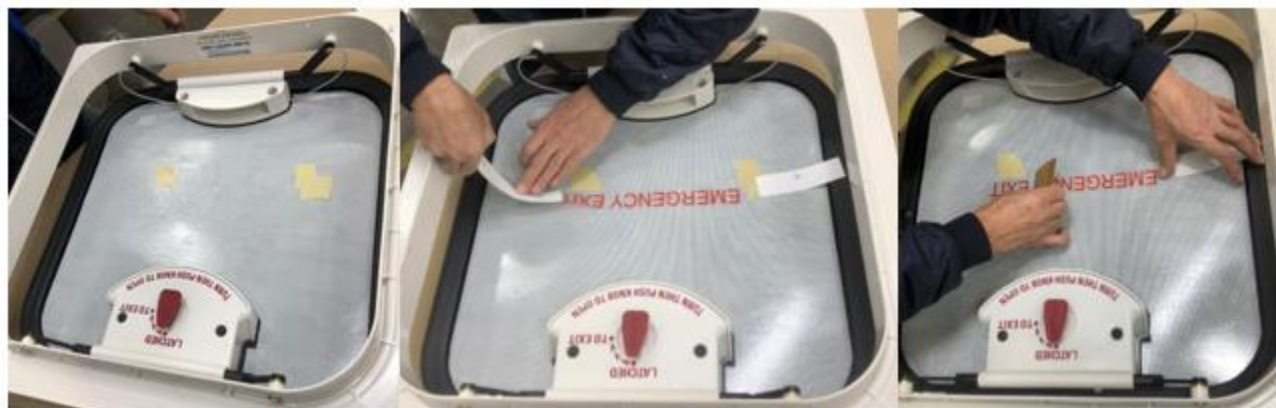
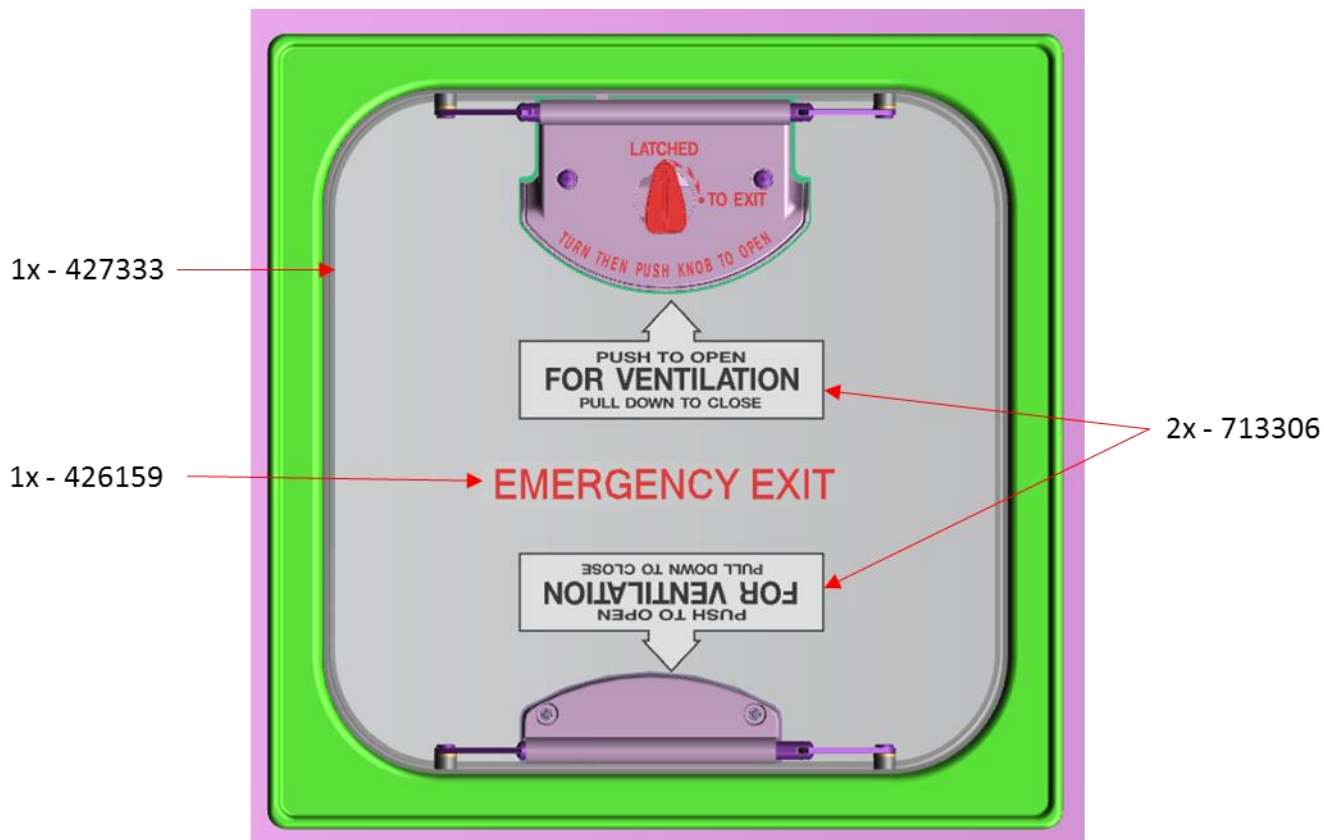

Figure 8: Decal placement (only the EMERGENCY EXIT DECAL is noted).
Figure 9: Completed decal installation.
8. Spray a thin layer of soap and water solution onto the surface of the tint film. Quickly position EMERGENCY EXIT DECAL – PN 426159 and the PUSH TO OPEN DECAL(S) PN - 713306 on the tint film before the soap and water can evaporate. See Figure 8 and Figure 9 below.